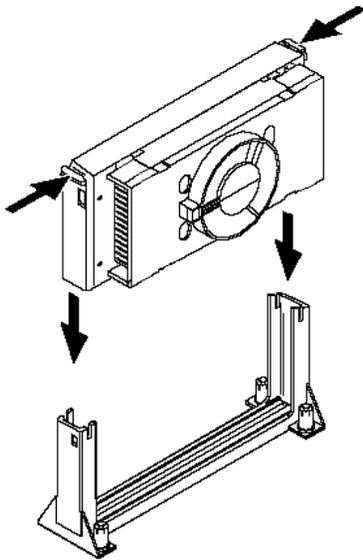

Fig. 1
1. Slide the CPU down into the retention mechanism and seat it firmly into the slot. Make sure the CPU is correctly oriented. (Fig. 1)